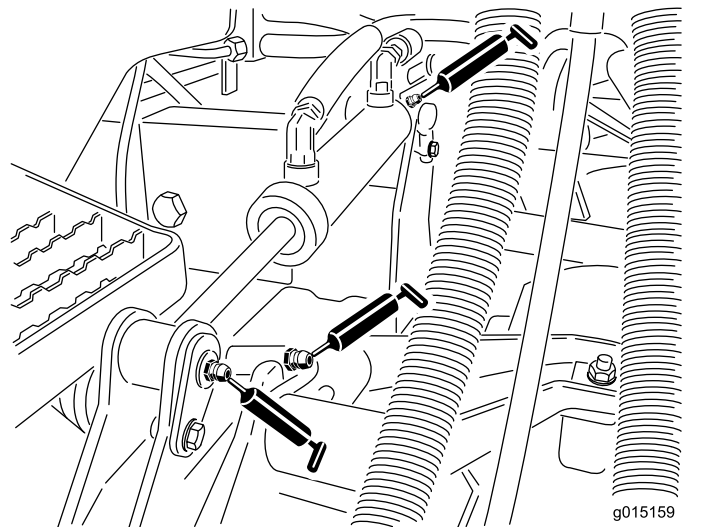

Figure 72
- Lift arm bushings (1 per cutting unit) (Figure 72)
- Lift cylinder bushings (2 per cutting unit) (Figure 72)